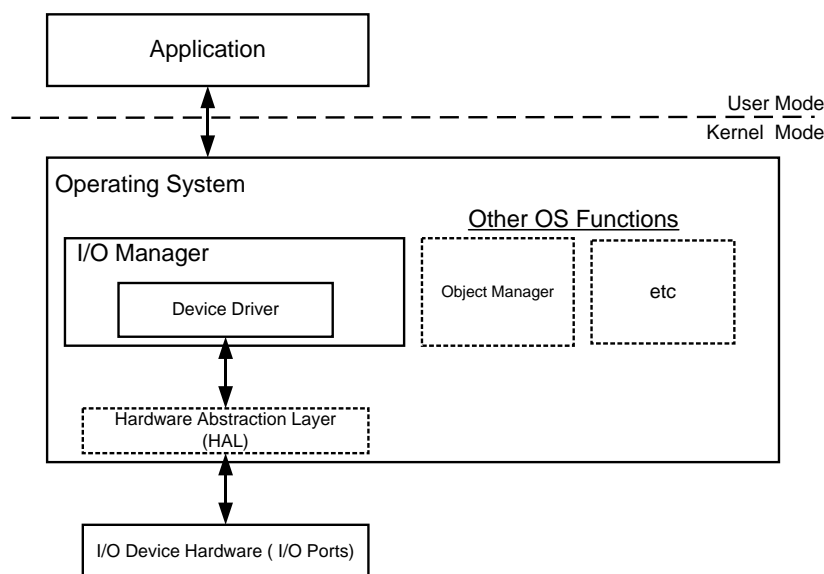

Figure 14 The I/O Subsystem
A fundamental role of any Operating System (OS) is to manage computer system resources. Within the OS it is the task of the I/O Manager to manage I/O hardware resources and I/O data transfers. Figure 14 identifies the main the components the makeup a typical I/O subsystem.
The device driver forms the link between the OS and the actual physical devices. File I/O requests submitted by to the I/O manager are translated into sequences of I/O operations during the actual transfer of data. It should be noted from Figure 14 that there is not a direct link from the device driver to the actual I/O ports and registers, although this can be the case in simpler embedded systems. HAL, is discussed below, but in essence it's goal is to allow the same device driver to operate on multiple hardware platforms - PC's for example use a range of processor types and motherboard manufacturers. The device driver issues I/O requests in a standard manner and the HAL translates them into machine specific operations, such as I/O port and register accesses.